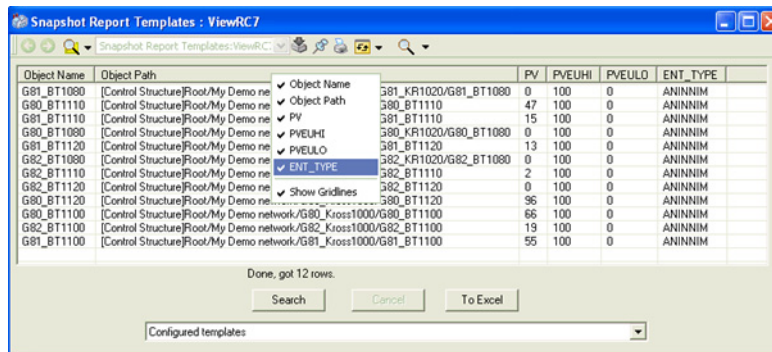

Figure 30. Hide/show column rows
- Hide or show columns through right-click on the Grid header row, select or deselect columns as shown in Figure 30.